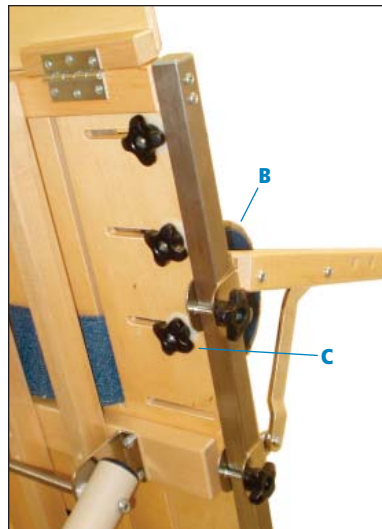

Figure 9b
3. Replace knob (C) and plastic washer on bolt on back of board, and tighten knob (C) securely (see Figure 9b).